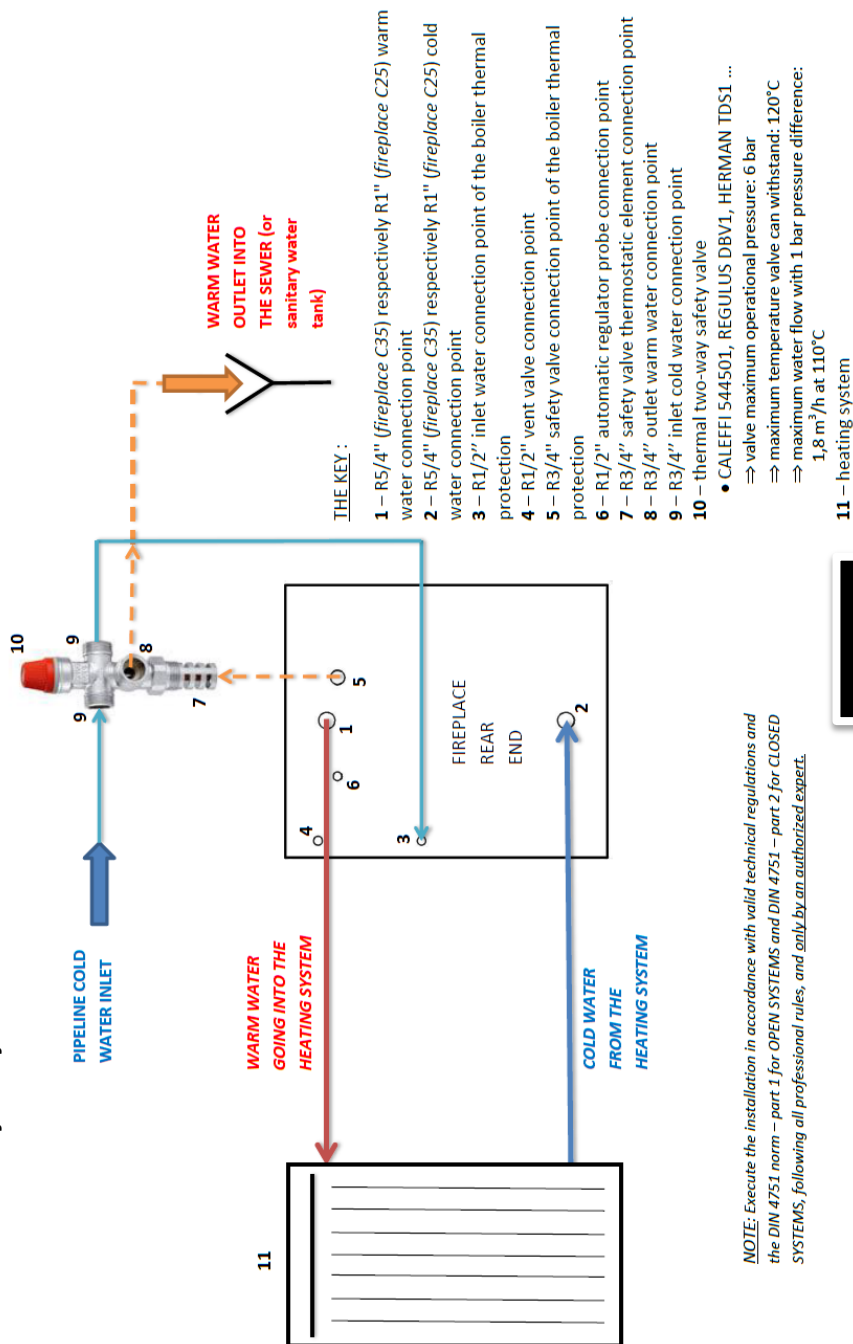

figure 9
- **R3/4" (8)** - figure 9, OR